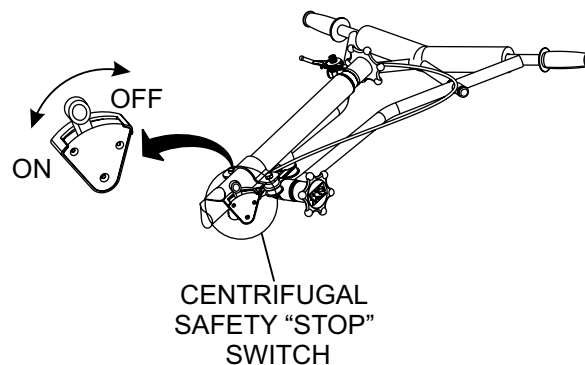

Figure 21. Centrifugal Safety "Stop" Switch (ON)
3. Place the **centrifugal safety "STOP" switch** (Figure 21) in the "ON" position.